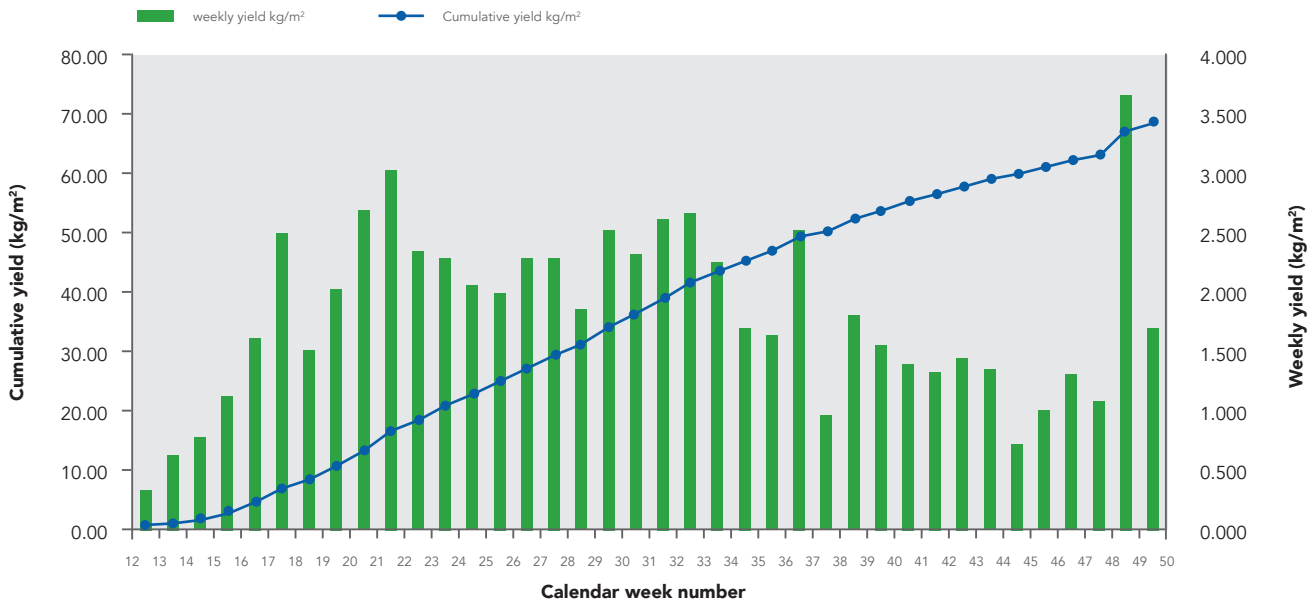

Figure 1.0
*Rates are from a Dutch greenhouse and are influenced by weekly production /m² shown in Figure 1.0. These rates assume a weekly harvest of approximately 2.0kg/m²